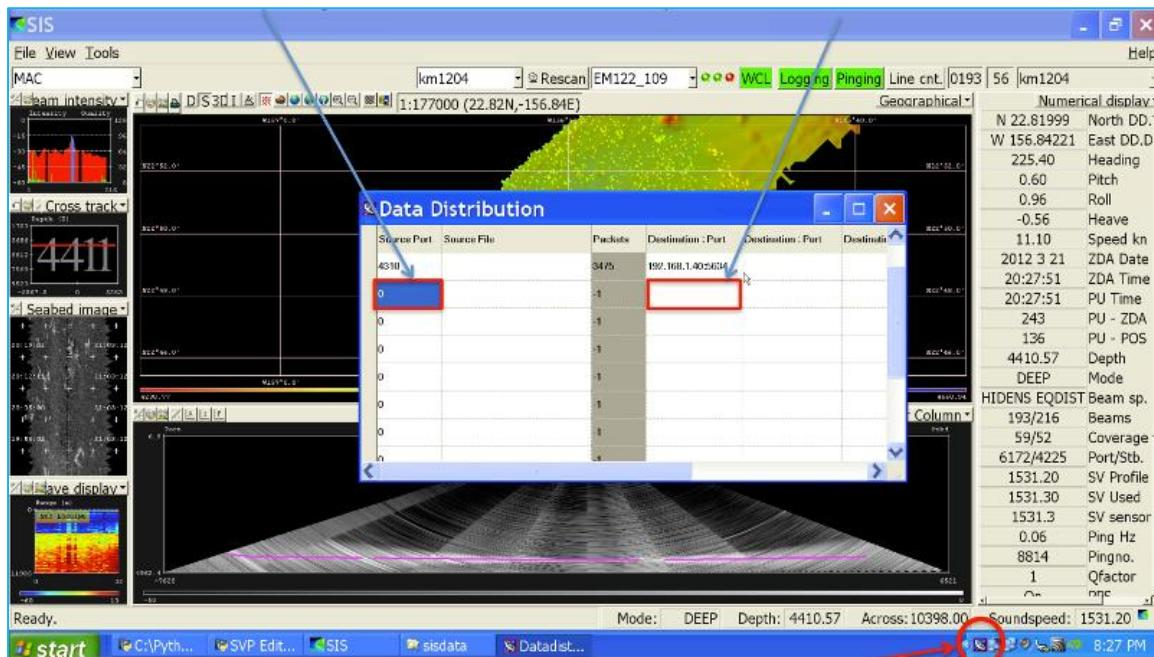

Figure 3 – The Data Distribution application, with key settings in red for method #3.
1. If the program is running already, click the icon in the taskbar to launch the graphical user interface (Figure 3). If not, navigate to *C:\Program Files\Kongsberg Maritime\SIS\bin* and double click on *DataDistrib.exe* to launch it